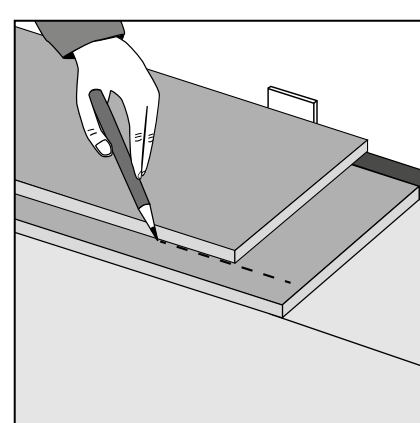

Figure 19 Last row
- ▶ Lay these panels on top of the installed row (Fig 19). Hold them firmly in place. Then line up a third panel on top. Place the edge of this panel against the wall after inserting a spacer.